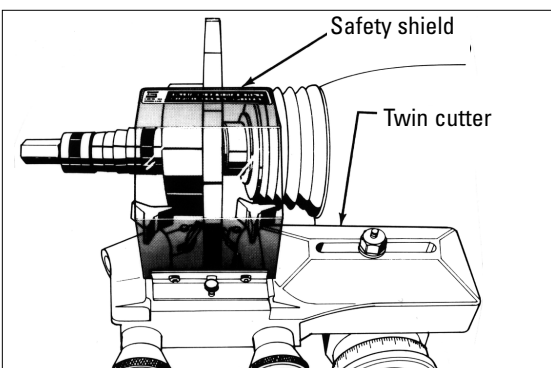

Figure 22 - Attach the safety shield
**3.** Install the safety shield as shown in figure 22. Review the cautions and dangers section and the general safety information at the beginning of this manual. The safety shield is easily screwed onto the twin cutter in the threaded mounting hole provided.